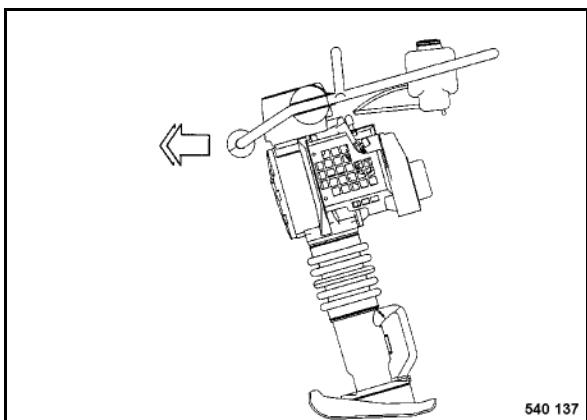

Fig. 20 □
- The travel speed can be influenced by altering the load on the steering handle (Fig. 20).